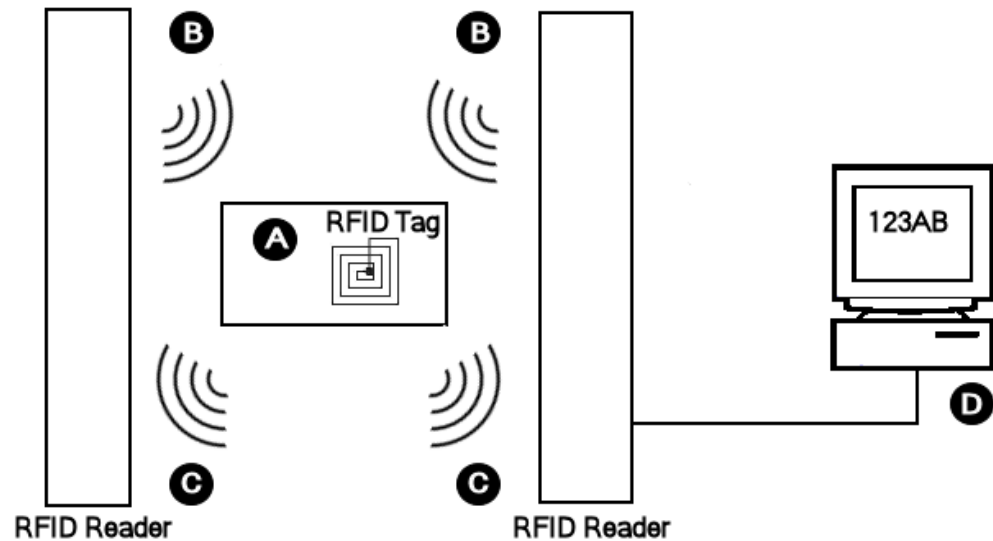

Figure 1-1. RFID Overview
Refer to Figure 1-1, RFID Overview. The RFID tag contains an antenna (A) that allows the tag to receive and respond to radio-frequency queries from an RFID reader. The reader transmits radio waves (B). The radio waves are reflected back from the RFID tag (C) and converted into digital information. This information is then passed on to computers (D) that can make use of the data.